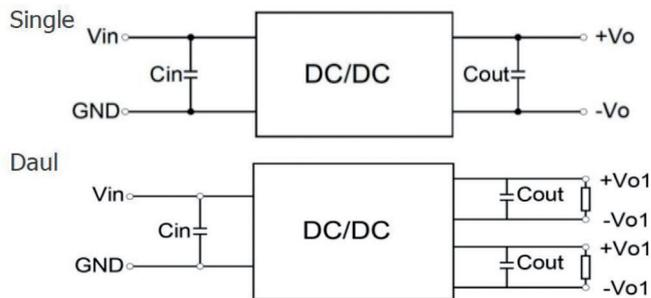

Figure2
C2	Refer to the Cout in Fig.2
- All DC-DC converters of this series are tested before delivery using the recommended circuit shown in Fig. 2.